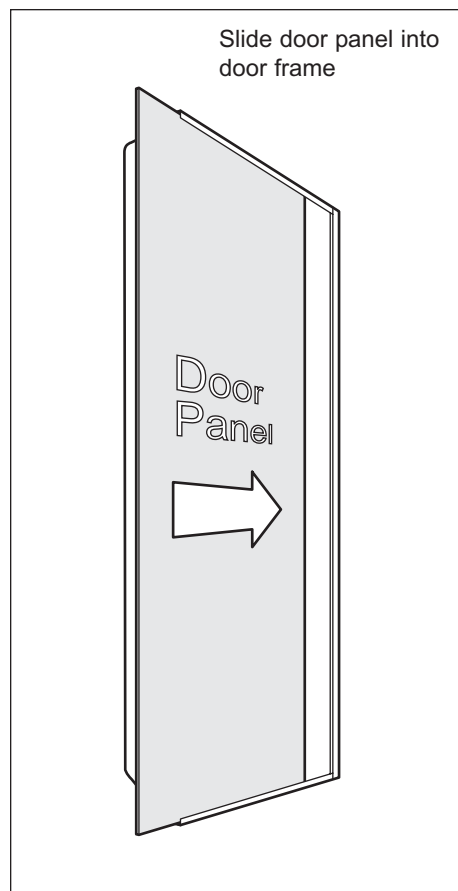

Figure 2-13. Door Panel Install
3. Slide door panel into door frame (See Figure 2-13), then reinstalling handle/trim and magnetic trim molding.